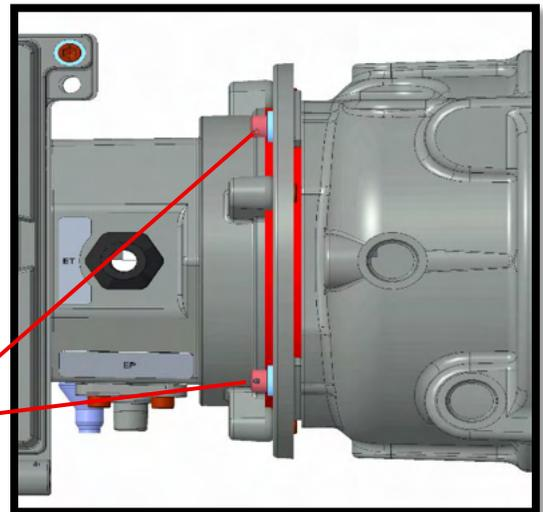

Figure 15: Insert and tighten all screws
8. Insert a screw into each hole with its washer and then use a 5/32" angled Allen or hex wrench to tighten the screws in a criss-cross pattern to a maximum torque of 20-inch pounds (refer to Figure 15).